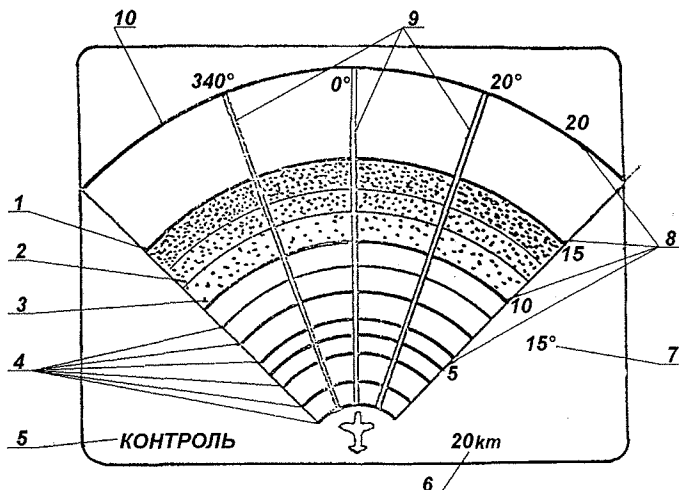

Fig. 7.1. TEST image
- (3) After the test picture has been displayed, make sure that it is identical to the reference one, Fig. 7.1. If the pictures are completely identical, it means that the radar is serviceable. If the test picture differs from the reference one, detect the failed unit using the Table 7.1.
The TEST (КОТРОЛЬ) mode is an auxiliary one. It starts operating automatically when the radar gets supplied with power. There is no radiation into the space in this mode. The TEST mode serves to check the radar serviceability by comparing a displayed picture with the reference one (Fig. 7.1).